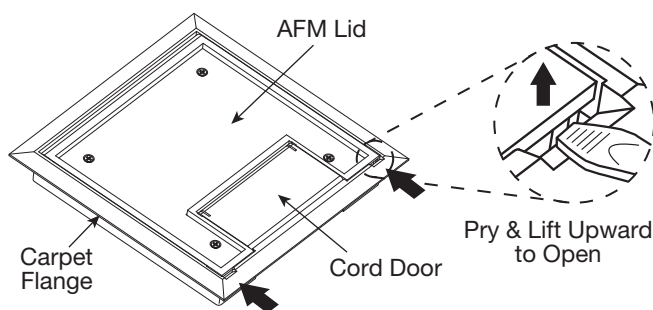

FIGURE 2
- 1) To lift the lid on the Access Floor Module (AFM), insert screwdriver into two slots and pry upward (see Figure 2).